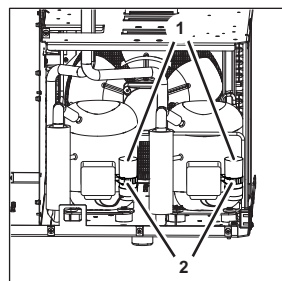

Figure 129
1. Lift the starting capacitor (Figure 129/1) out of the mount (Figure 129/2).
7. Attach the starting capacitor (Figure 129/1) to the mount (Figure 129/2).